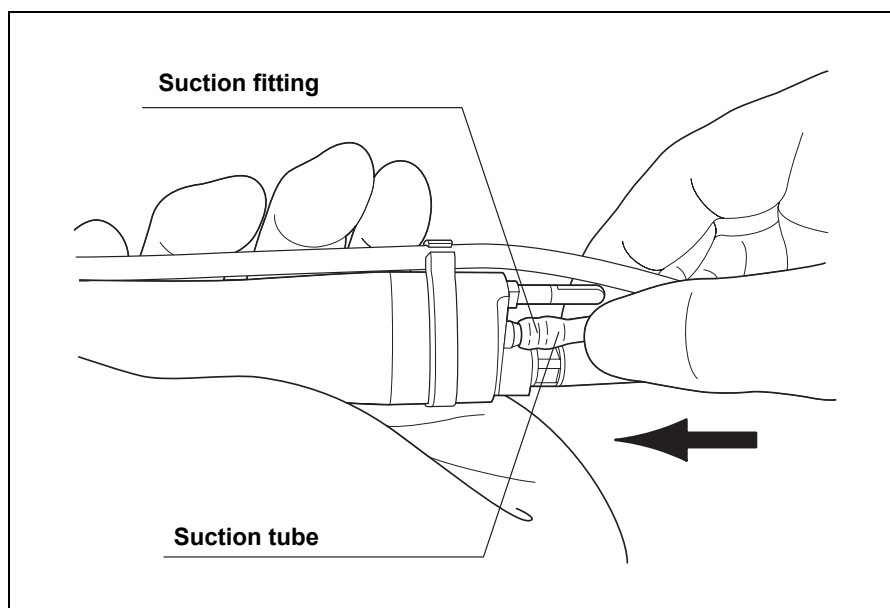

Figure 4.11
3. When connecting the suction tube of the irrigation/suction tube to the transducer, push the tube on until it covers the two ridges of the suction fitting (see Figure 4.11).